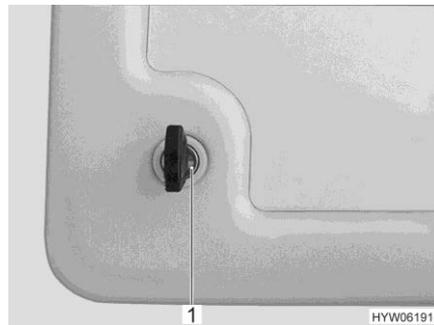
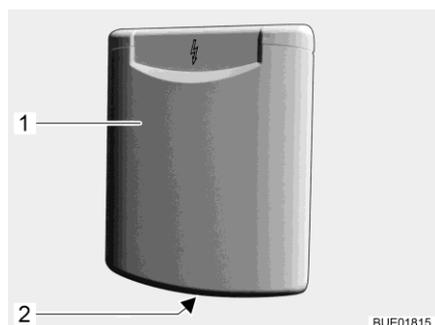

Fig. 42 Service flap push-button lock
Fig. 43 Service flap push-button lock (alternative)
- Insert the key into locking cylinder of the lockable push-button lock (Fig. 42,1 or Fig. 43,1) and turn a quarter turn. The push-button lock is unlatched.
- Press the two push buttons (Fig. 43,2) of the push-button locks simultaneously with the thumb and open the service flap.
- Insert the key into locking cylinder of the lockable push-button lock (Fig. 42,1 or Fig. 43,1) and turn a quarter turn. The push-button lock is locked.